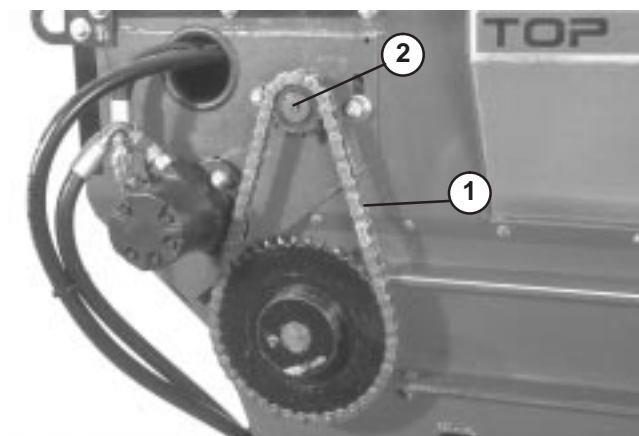

Figure 20
2. Loosen bolts and nuts securing motor and sprocket assembly to the main frame (Fig. 20).